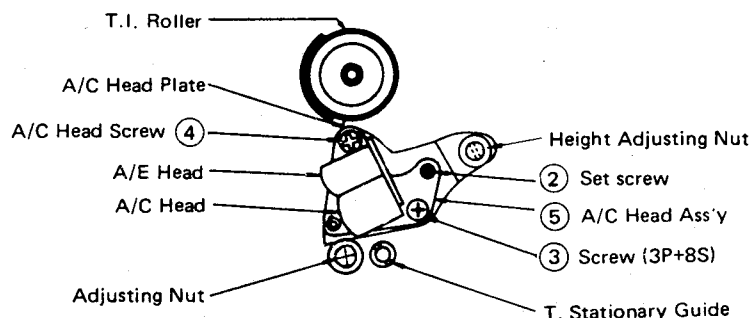

Figure 24.
1. Carry out the following adjustments with reference to figures 24 and 26, if an abnormality can be seen in the travel mode.
- 4) If adjustment is needed, adjust by means of the setscrews (2) in figure 24). Turn the screw (2) slightly.
- 7) Turn the tracking knob to its preset position and turn the adjusting nut (in Fig. 24) so that the envelope is at a maximum before performing adjustment of the AC head.